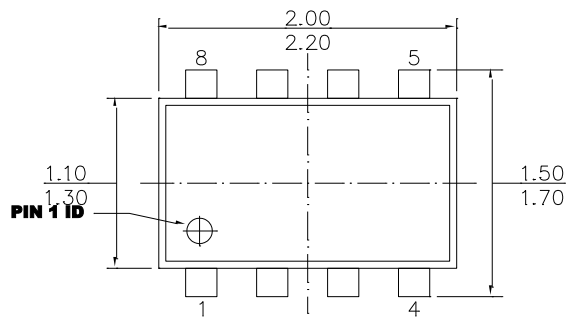

**Figure 9: Typical Application Circuit**
The external resistor divider sets the output voltage (see Figure 9). Select the feedback resistor (R1) that reduces the VOUT leakage current (typically 100kΩ to 200kΩ). There is no strict requirement on the feedback resistor. Select R1 to be greater than 10kΩ. R2 can then be calculated with Equation (2):